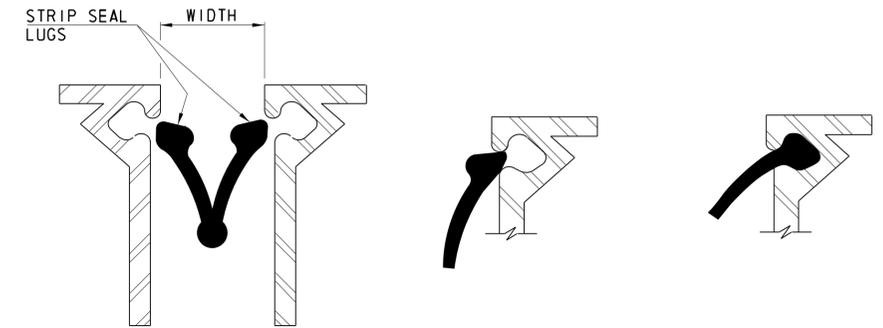

FIGURE 1
- COLLAPSE THE STRIP SEAL INTO THE JOINT OPENING UNTIL THE LUG IS ALIGNED WITH THE FRAME RAIL CHANNEL. (SEE FIGURE 1)